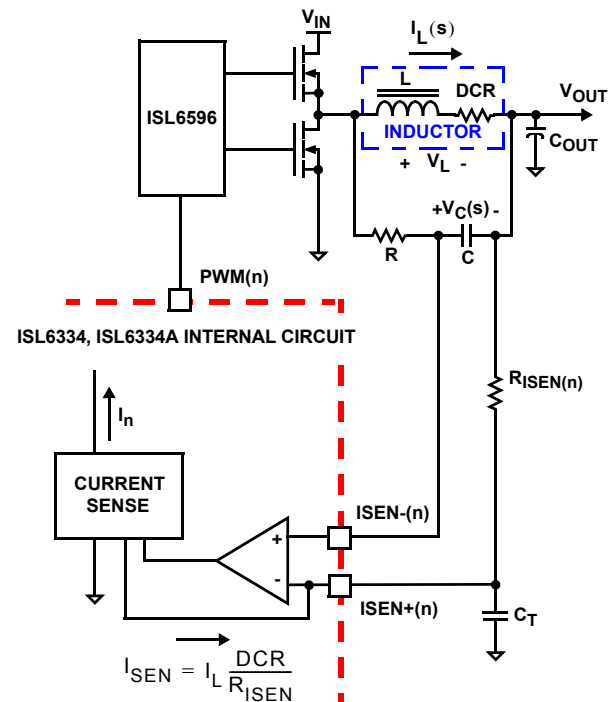

FIGURE 8. DCR SENSING CONFIGURATION
The internal circuitry, shown in Figures 8 and 9, represents one channel of an N-channel converter. This circuitry is repeated for
An inductor's winding is characteristic of a distributed resistance, as measured by the DCR (Direct Current Resistance) parameter. Consider the inductor DCR as a separate lumped quantity, as shown in Figure 8. The channel current I_L flowing through the inductor, will also pass through the DCR. Equation 4 shows the s-domain equivalent voltage across the inductor V_L .
A simple R-C network across the inductor extracts the DCR voltage, as shown in Figure 8.
The current sense circuitry operates in a very similar manner for negative current feedback, where inductor current is flowing from the output of the regulator to the PHASE node, opposite of flow pictured in Figures 8 and 9. However, the range of proper operation with negative current sensing has a limitation. The worst-case peak-to-peak inductor ripple current should be kept less than 70% of the OCP trip point (internal mirrored current = $\sim 70\mu\text{A}$). Care should be taken to avoid operation with negative current feedback exceeding this threshold, as this may lead to momentary loss of current balance between phases and disruption of normal circuit operation. Note that the negative current can especially affect coupled inductor designs, where the effective inductance is the leakage between the two channels, much lower than the specified mutual inductance (LM). To limit the impact, a higher R_{ISEN} value (1.5x to 2x) can be used to reduce the effective negative current seen by the controller in coupled inductor designs. Refer to Intersil's application note, AN1268 for a detailed coupled inductor discussion and ripple current calculation.